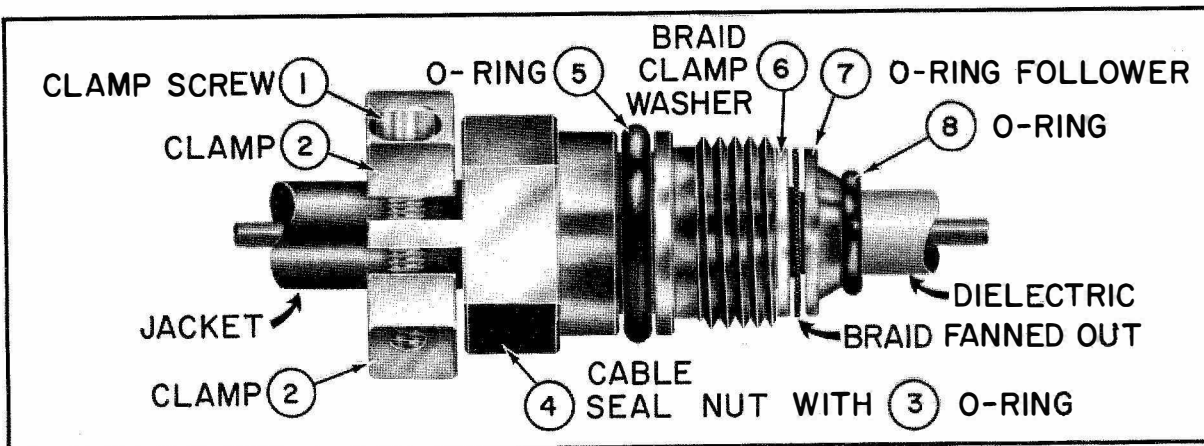

Figure 5-9e. Cable Seal Nut Assembly
Step 5. - Fan out the braid strands and bend them up against the braid clamp washer. Trim the braid strands even with the outside edge of the braid clamp washer. Remove any pieces of loose braid strands that may have lodged on the dielectric or cable seal nut assembly. Slide the O-ring follower, piece 7, over the cable dielectric and up against the fanned out braid. Lubricate O-ring, piece 5, with insulating compound and install in the cable seal nut and up against the fanned out braid. Lubricate O-ring, piece 8, with insulating compound and slide over the cable dielectric and up against the O-ring follower as illustrated in figure 5-9e.